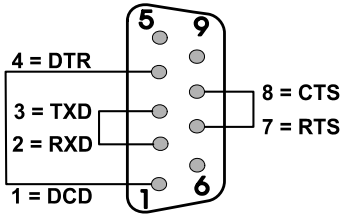

Figure 3-9 - RS-232 Loop-back Plugs
- Ports 1, 2, 4 & 8 - RS-232 use a 9-pin female D-type loop-back plug (see Fig. 3-9).
Connect an external loop-back plug to the CPU Port to be tested, i.e., J3 of CPU for COM1, J4 of CPU for COM2, J5 of CPU for COM3, J1 of ECOM1 for COM4, J2 of ECOM1 for COM5, J1 of ECOM2 for COM8 or J2 of ECOM2 for COM9 (see Figures 3-9 through 3-11).